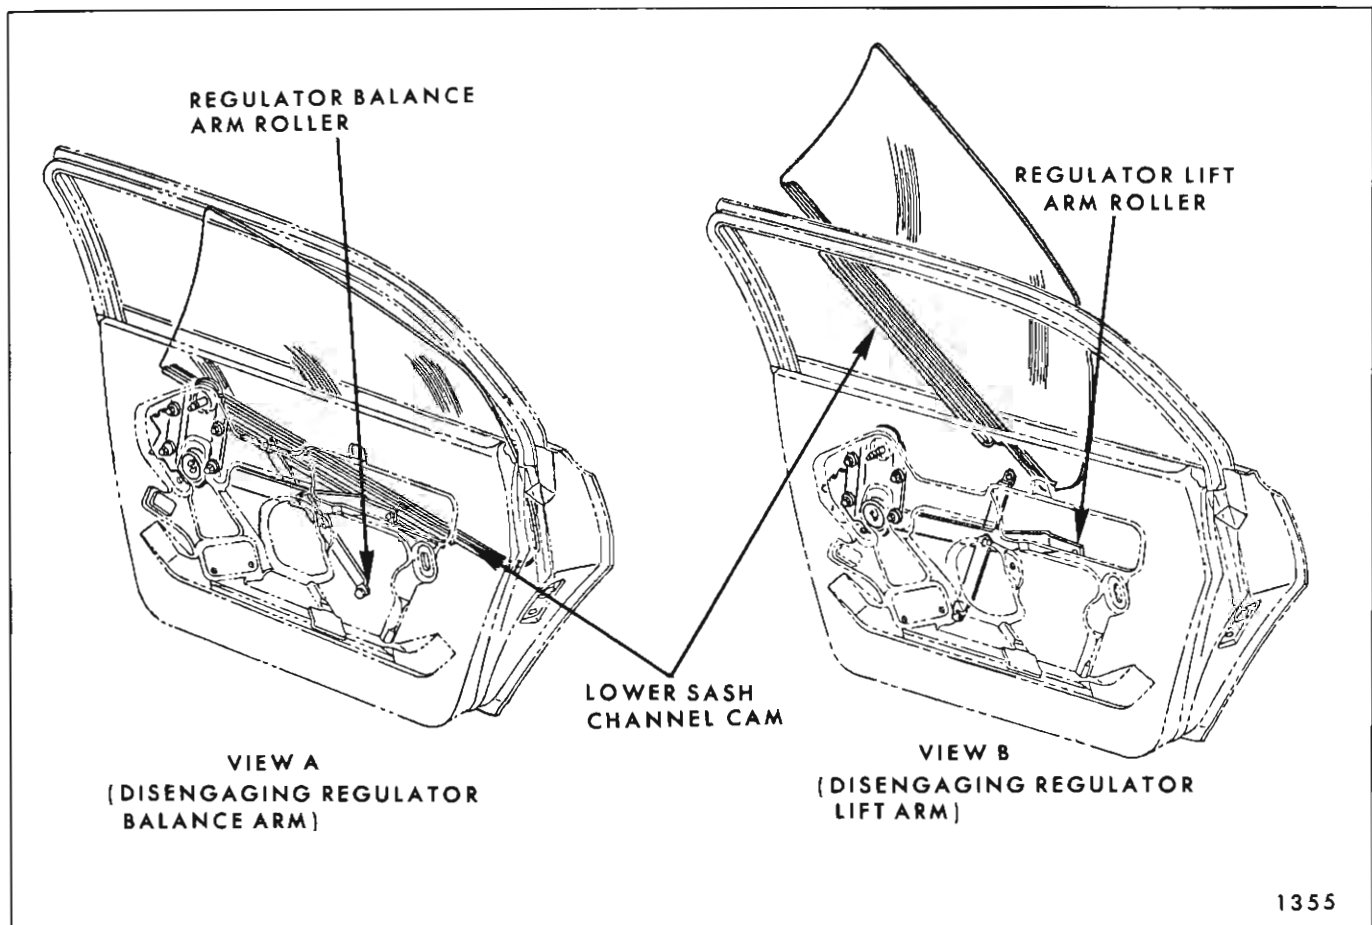

Fig. 2D41—"69" Style Rear Door Window Removal
2. Drill a 1/4" hole through back plate and sector gear, at a location dependent upon position of lift arm. **DO NOT** drill into motor housing (See Fig. 2D31).